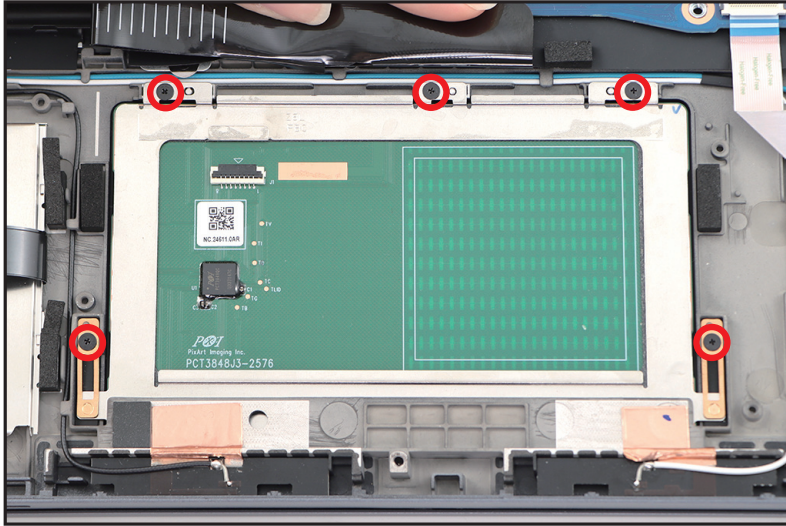

Figure 1-61. Touchpad Module Removal
7. Remove five (5) screws securing the touchpad module and touchpad brackets (Figure 1-61).